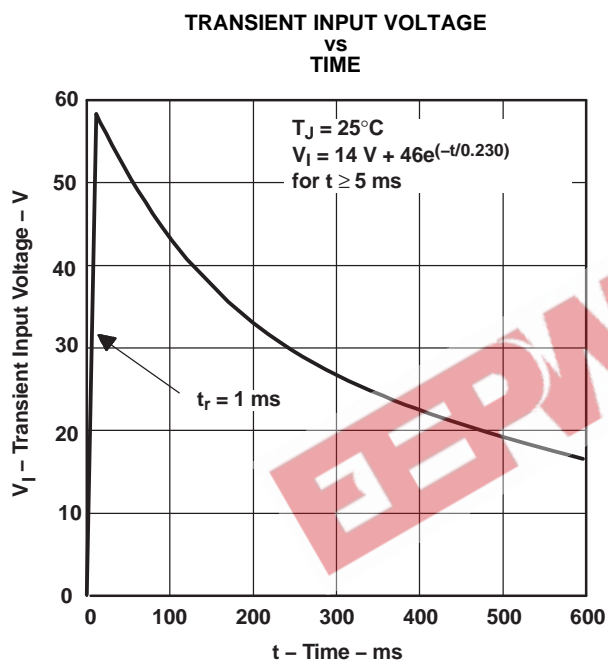

Figure 4.
- (1) Pulse-testing techniques maintain the junction temperature as close to the ambient temperature as possible. Thermal effects must be taken into account separately. All characteristics are measured with a 0.1- μF capacitor across the input and a 10- μF tantalum capacitor on the output, with equivalent series resistance within the guidelines shown in Figure 4.
- (2) Measured when the output voltage, V_O , has dropped 100 mV from the nominal value obtained at $V_I = 14\text{ V}$